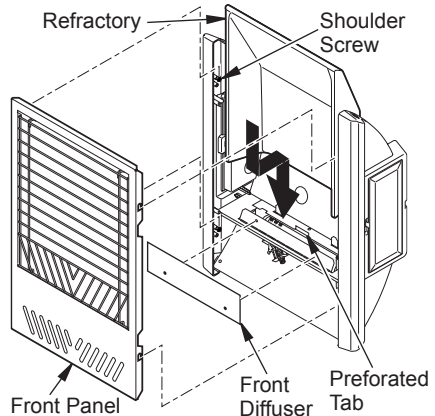

Figure 15 - Installing Front Panel and Refractory
1. Gently lift refractory and position into heater. Take care not to damage refractory. Ensure refractory sits behind preforated tab. (see Figure 15). If refractory is damaged call the phone number found under *Replacement Parts*, page 21.
2. Install front diffuser as shown in Figure 15.
3. Install front panel of heater by placing slots on each side over and down onto shoulder screws (see Figure 15).